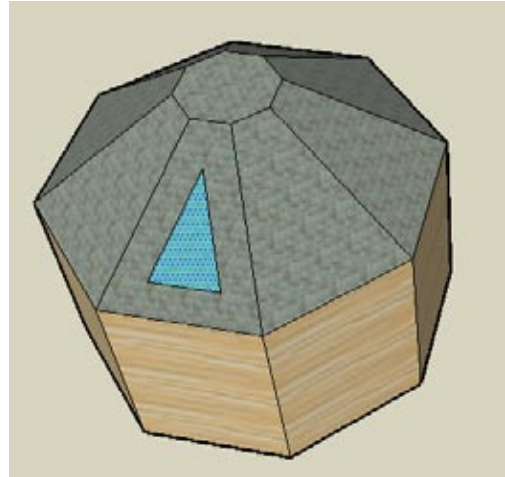

Figure 1-41
3. Select this new window face (Figure 1-41).